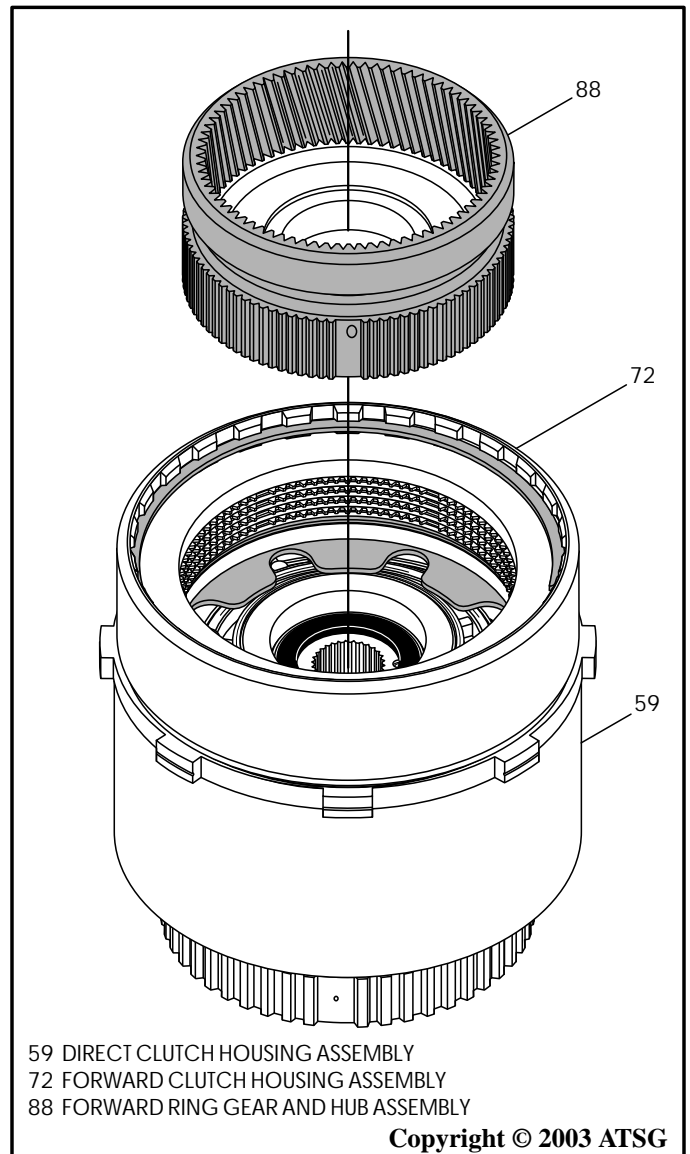

Figure 126
6. Install forward ring gear and thrust washer into forward clutch plates, as shown in Figure 126, by rotating back and forth until fully seated.